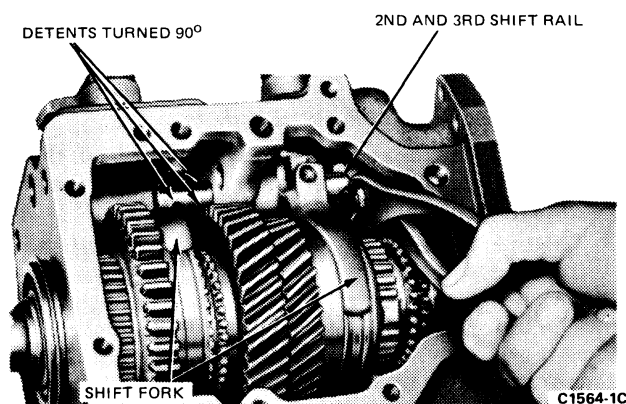

FIG. 16 Rotating Second- and Third-Speed Shift Rail
13. Move the second-and third-speed shift fork to the second-speed position to gain access to the set screw. Remove the set screw from the fork. Rotate the shift rail 90 degrees as shown in Fig. 16.